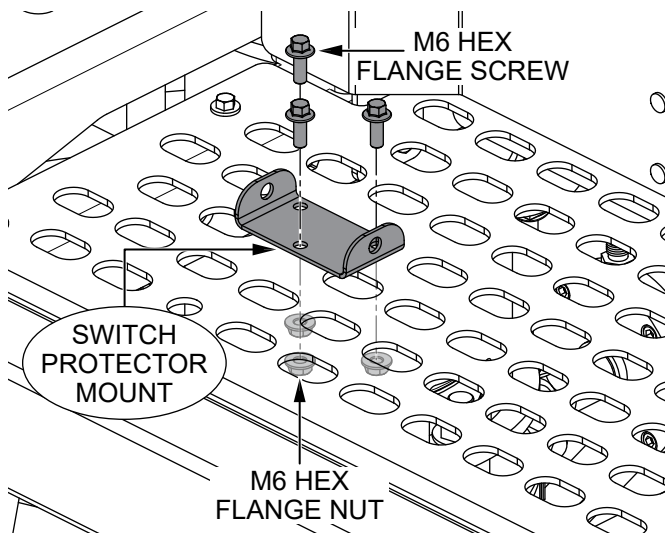

Figure 6. Remove Switch Protector Mount
5. Remove the **three M6 hex flange screws** (Figure 6) and **three M6 hex flange nuts** securing the **switch protector mount** to the front platform, and remove the switch protector mount. Save the screws and nuts to reuse later in the procedure.